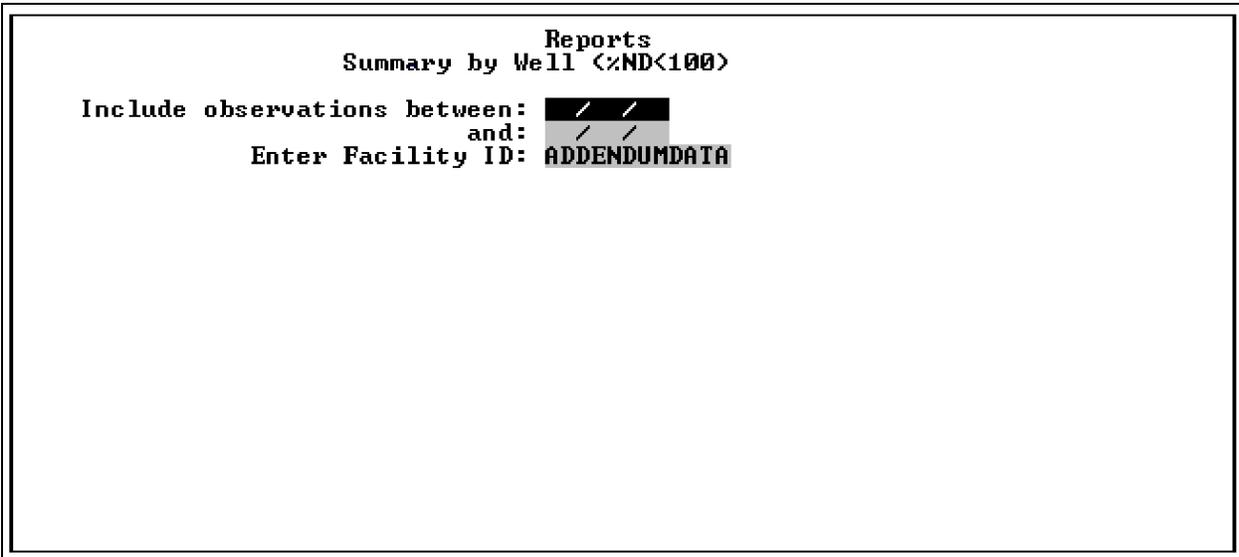

Figure 10-103. The Summary by Well (%ND<100) dialog.
1. Use the up and down arrow keys to highlight the Summary Statistics by Well (%ND<100) option of the Groundwater Reports Menu and press **<Enter>**. The Summary by Well (%ND<100) dialog appears on your screen as shown in Figure 10-103.